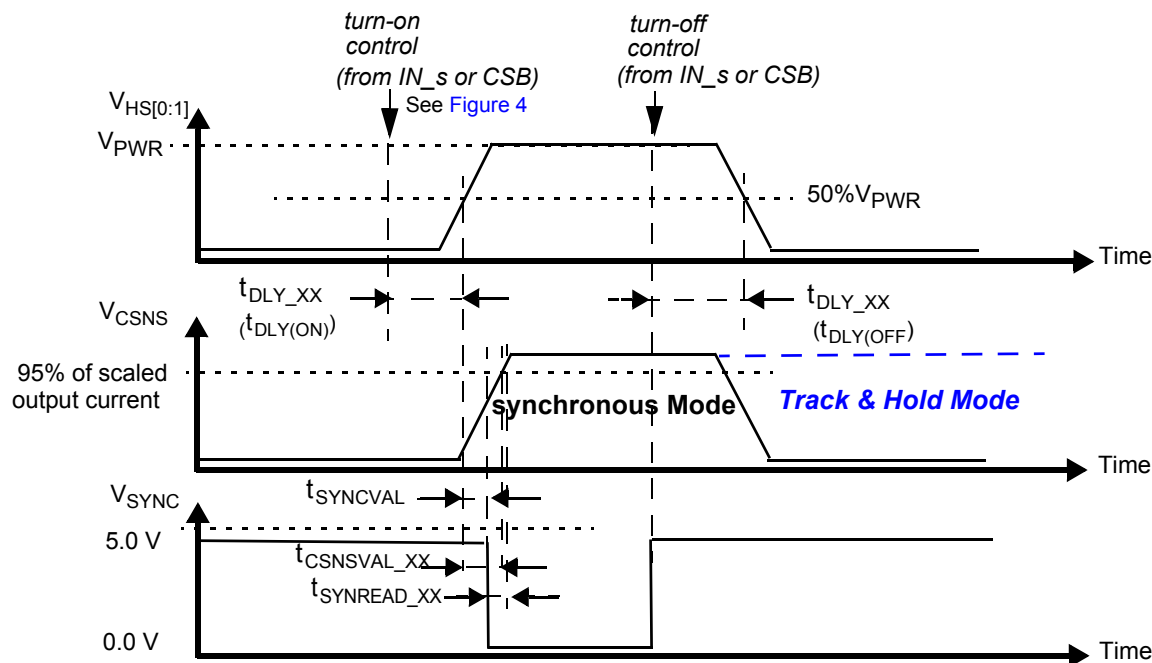

Figure 9. Synchronous & Track-and-Hold Current Sensing Modes: Associated Delay & Settling Times
32. Time required to switch off the channel after detection of overtemperature (OT), overcurrent (OC), SC or UV error (time measured between start of the negative edge on the FSB pin and the falling edge on the output voltage until $V(\text{HS}[0:1]) = 50\%$ of V_{PWR}).
33. Settling time ($= t_{CSNSVAL_XX}$), SYNC output signal delay ($= t_{SYNCVAL_XX}$) and Read-out delay ($= t_{SYNREAD_XX}$) are defined for a stepped load current ($100\text{ mA} < I(\text{LOAD}) < I_{OCLX\text{ A_0}}$ FOR $\text{CSNS_RATIO_S} = 1$, AND $300\text{ mA} < I(\text{LOAD}) < I_{OCLX\text{ A_0}}$ FOR $\text{CSNS_RATIO_S} = 0$). (see Figure 9 and Output Current Monitoring \(CSNS\))
34. Settling time ($= t_{\text{CSNSVAL_XX}}$), SYNC output signal delay ($= t_{\text{SYNCVAL_XX}}$) and Read-out delay ($= t_{\text{SYNREAD_XX}}$) are defined for a stepped load current ($100\text{ mA} < I(\text{LOAD}) < I_{\text{OCLX A FOR CSNS_RATIO_S}} = 1$, AND $300\text{ mA} < I(\text{LOAD}) < I_{\text{OCLX A_0 FOR CSNS_RATIO_S}} = 0$). (see Figure 9 and Output Current Monitoring \(CSNS\))
The CS pin allows independent current monitoring of channel 0 or channel 1 up to the steady-state overcurrent threshold. It can also be used to sense the device temperature. The different functions are selected by setting bits CSNS1_en and CSNS0_en to the appropriate value (Table 23). When the CSNS pin is sensed during switch-off in the (optional) track & hold mode (see Figure 9), it outputs the scaled value of the load current as it was just before turn-Off. When several devices share the same pull-down resistor, the CSNS pins of devices the current of which is not monitored must be tri-stated. This is accomplished by setting CSNS0_en = 0 and CSNS1_en = 0 in the GCR register (Table 10). Settling time ($t_{CSNSVAL_XX}$) is defined as the time between the instant at the middle of the output voltage's rising edge ($HS[0:1] = 50\%$ of V_{PWR}), and the instant at which the voltage on the CSNS-pin has settled to $\pm 5.0\%$ of its final value. Anytime an overcurrent window is active, the CSNS pin is disabled (see Overcurrent Detection on Resistive and Inductive Loads). The current and temperature sensing functions are unavailable in Fail-safe mode and in Normal mode when operating without the V_{DD} supply voltage. In order to generate a voltage output, a pull-down resistor is required ($R(CSNS)=1.0\text{ k}\Omega$ typ. and $470 < R(CSNS) < 10\text{ k}\Omega$). When the current sense resistor connected to the CSNS pin is disconnected, the CSNS voltage is clamped to $V_{CL(CSNS)}$. The CSNS pin can source currents up to about 5.6 mA.
To synchronize current sensing with an external process, the SYNC signal can be connected to a digital input of an external MCU. SYNC is asserted logic low when the current sense signal is accurate and ready to be read. The current sense signal on the CSNS pin has the specified accuracy $t_{SYNCREAD_XX}$ seconds after the falling edge on the SYNC pin (Figure 9) and remains valid until a rising edge is generated. The rising edge that is generated by the SYNC pin at the turn-OFF instant (internal or external) may also be used to implement synchronization with the external MCU. Parameter $t_{SYNCVAL_XX}$ is defined as the time between the instant at the middle of the output-voltage rising edge ($HS[0:1] = 50\%$ of $VPWR$), and the instant at which the voltage on the SYNC-pin drops below 0.4 V (V_{SOL}). The SYNC pins of different devices can be connected together to save μ -controller input channels. However, in this configuration, the CSNS function of only one device should be active at a time. Otherwise, the MCU does not determine the origin of the SYNC signal. The SYNC pin is open drain and requires an external pull-up resistor to VDD.